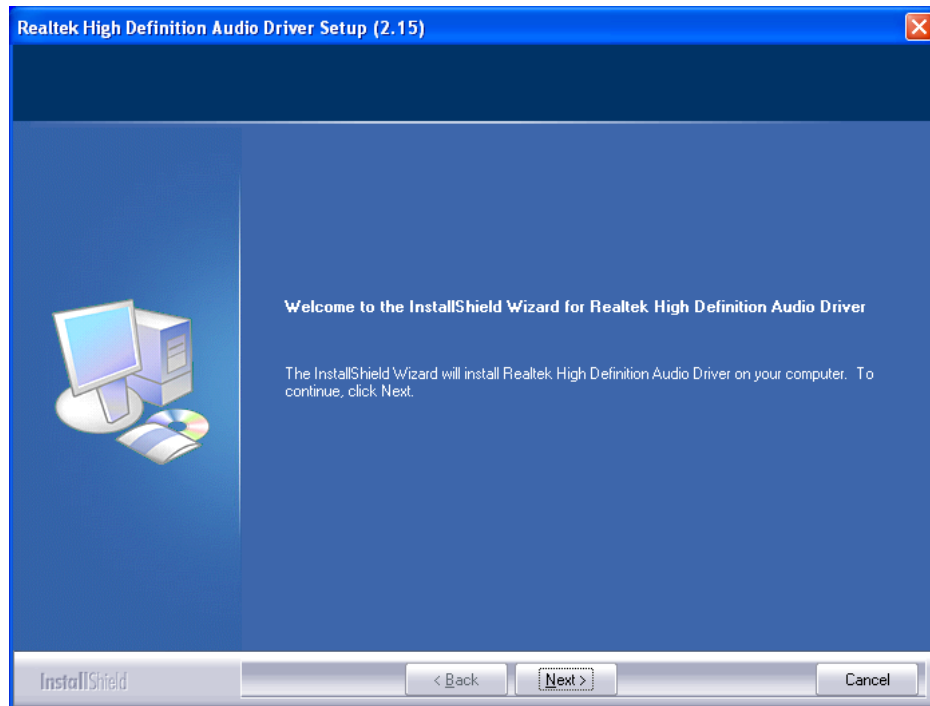

Figure 7-23: HD Audio Driver Welcome Screen
Step 3: The **Welcome** screen in **Figure 7-23** appears.